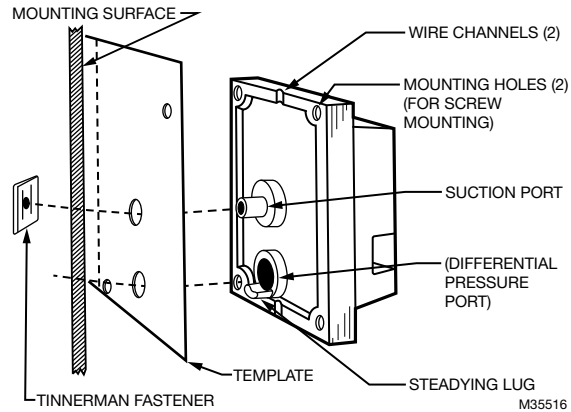

Fig. 2. Surface mounting with Tinnerman fastener.
4. Mount the case using the Tinnerman fastener and steadying lug (Fig. 2). An alternate method is to use two No. 6 sheetmetal screws (furnished), and remove the steadying lug or drill a hole for it in the mounting surface.
1. Carefully open the differential pressure port with a sharp, pointed object (Fig. 2).